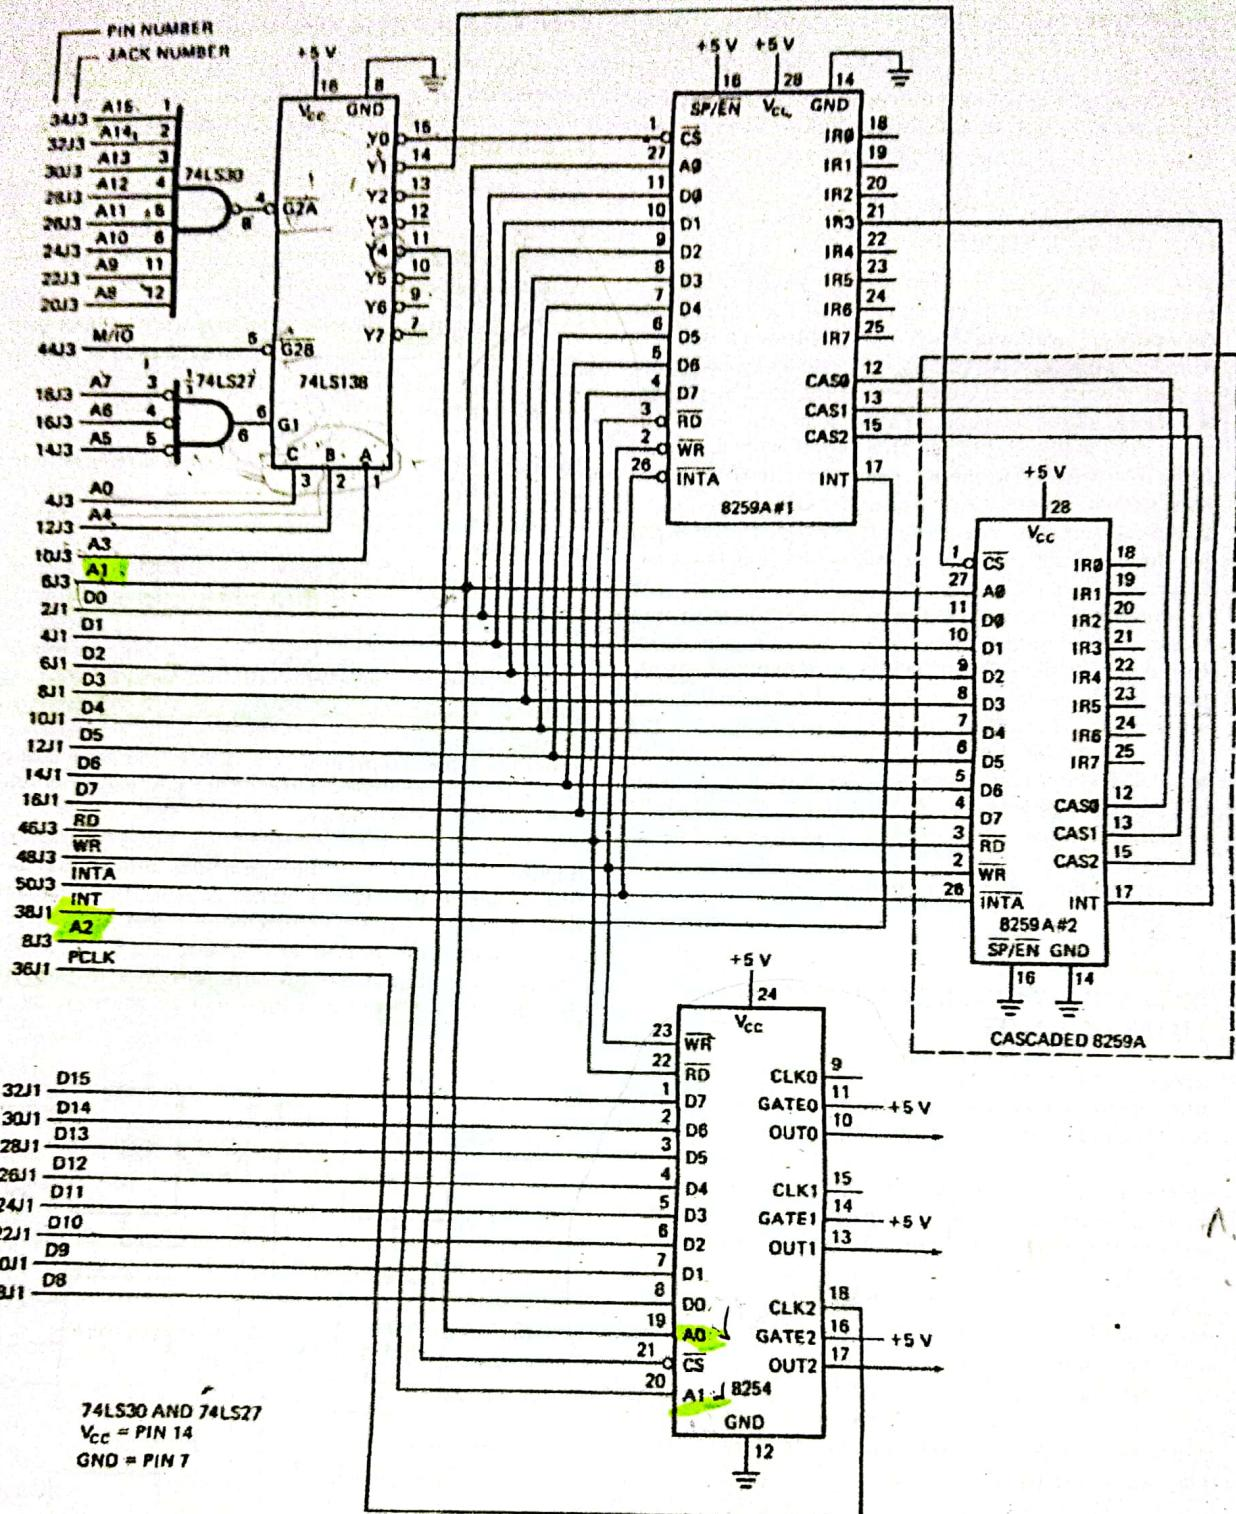

FIGURE 8-14 Circuit showing how to add an 8254 and 8259A(s) to an SDK-86 board.
An 8254 is a very useful device to have in a microcomputer system, but, in order to keep the cost down, the SDK-86 was not designed with one on the board. Figure 8-14 shows the circuit connections for adding an 8254 Counter and an 8259A Priority Interrupt Controller to an SDK-86 board. We discuss the 8259A in a later section of this chapter.
The 74LS138 in Figure 8-14 is used to produce chip select (CS) signals for the 8254, the 8259A, and any other I/O devices you might want to add. Let's look first at the circuitry around this device to determine the system base address which selects each device.
Now, remember from Chapter 7 that only one of the Y outputs of the 74LS138 will ever be asserted at a time. The output asserted is determined by the 3-bit binary code applied to the A, B, and C select inputs. In the circuit in Figure 8-14, we connected system address line A0 to the C input, address line A4 to the B input, and address line A3 to the A input. The truth table in Figure
2. Use the device data sheet to determine the internal addresses for each of the control registers, ports, timers, status registers, etc., in the device. Figure 8-16a shows the internal addresses for the three counters and the control word register for the 8254. A0 in this table represents the A0 input of the device, and A1 represents the A1 input of the device. Note in the schematic in Figure 8-14 that system address line A1 is connected to the A0 input of the 8254, and system address line A2 is connected to the A1 input. We could not use system address line A0 as one of these because, as described before, we used system address line A0 as one of the inputs to the address decoder.
As a specific example of initializing an 8254, suppose that we want to use counter 0 of the 8254 in Figure 8-14 to produce a stable 78.6-kHz square-wave signal for a UART clock by dividing down the 2.45-MHz PCLK signal available on the SDK-86 board. To do this, we first connect the SDK-86 PCLK signal to the CLK input of counter 0 and tie the GATE input of the counter high to enable it for counting. To produce 78.6 kHz from 2.45 MHz, we have to divide by 32 decimal, so this is the value that we will eventually load into counter 0. First, however, we have to determine the system addresses for the device, make up the control word for counter 0, and send the control word.
As shown in Figure 8-16b, the system address for the control register of this 8254 is FF07H. This is where we will send the control word. For our control word we want to select counter 0, so we make the SC1 and SCO bits both 0's. We want the counter to operate in square-wave mode. This is mode 3, so we make the mode bits of the control word 011. Since we want to divide by 32 decimal, we tell the counter to count down in decimal by making the BCD bit of the control word a 1. This makes our life easier, because we don't have to convert the 32 to binary or hex. Finally, we have to decide how we want to load the count into the counter. Since the count that we need to load in is less than 99, we only have to load the lower byte of the counter. According to Figure 8-17, the RW1 bit should be a 0 and the RWO bit a 1 for a write to only the lower byte (LSB). The complete control word then is 00010111 in binary. Here are the instructions to send the control word and count to counter 0 of the 8254 in Figure 8-14. Note how the bits of the control word are documented.